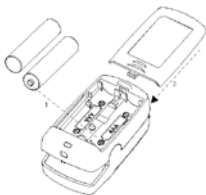

Figure 2 Battery Installation
1. Refer to Figure 2; insert two AAA size batteries into the battery compartment properly.